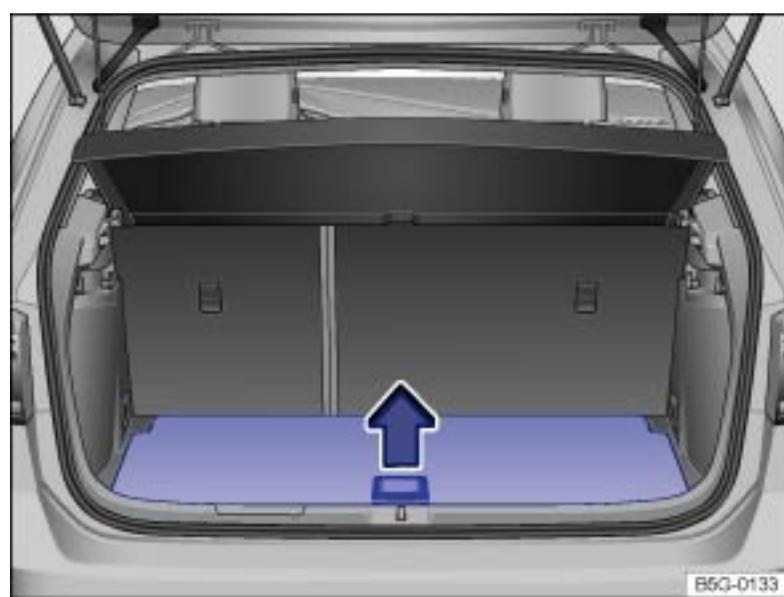
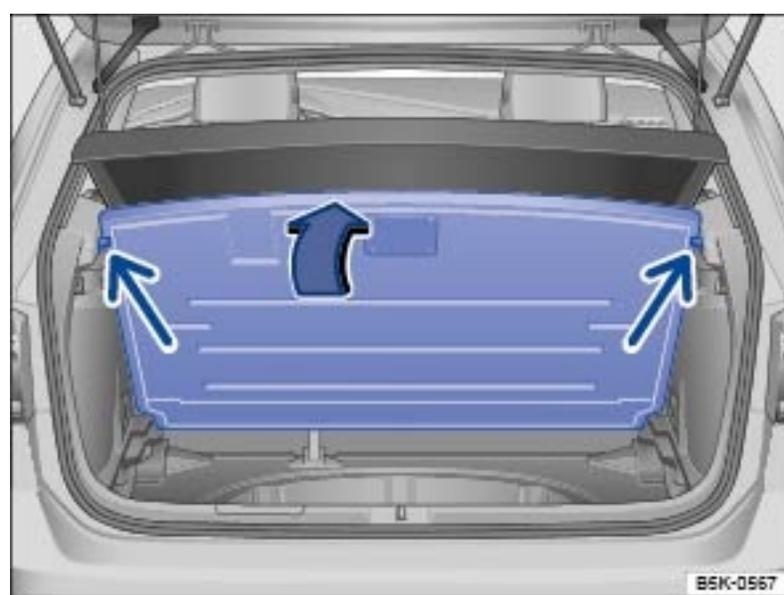

Fig. 103 In the luggage compartment: Opening the variable luggage compartment floor.
Fig. 104 In the luggage compartment: Variable luggage compartment floor folded up.
- ▶ To open the luggage compartment floor, lift the recessed handle → Fig. 103 and guide the floor upward until it is held in position by the stops on either side of the luggage compartment → Fig. 104 (arrows).
- ▶ Grasp the recessed handle → Fig. 103, lift the luggage compartment floor, and pull it rearward out of the guides on the sides of the luggage compartment.